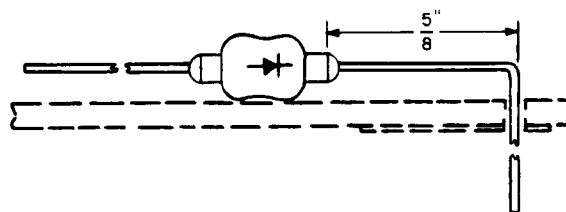
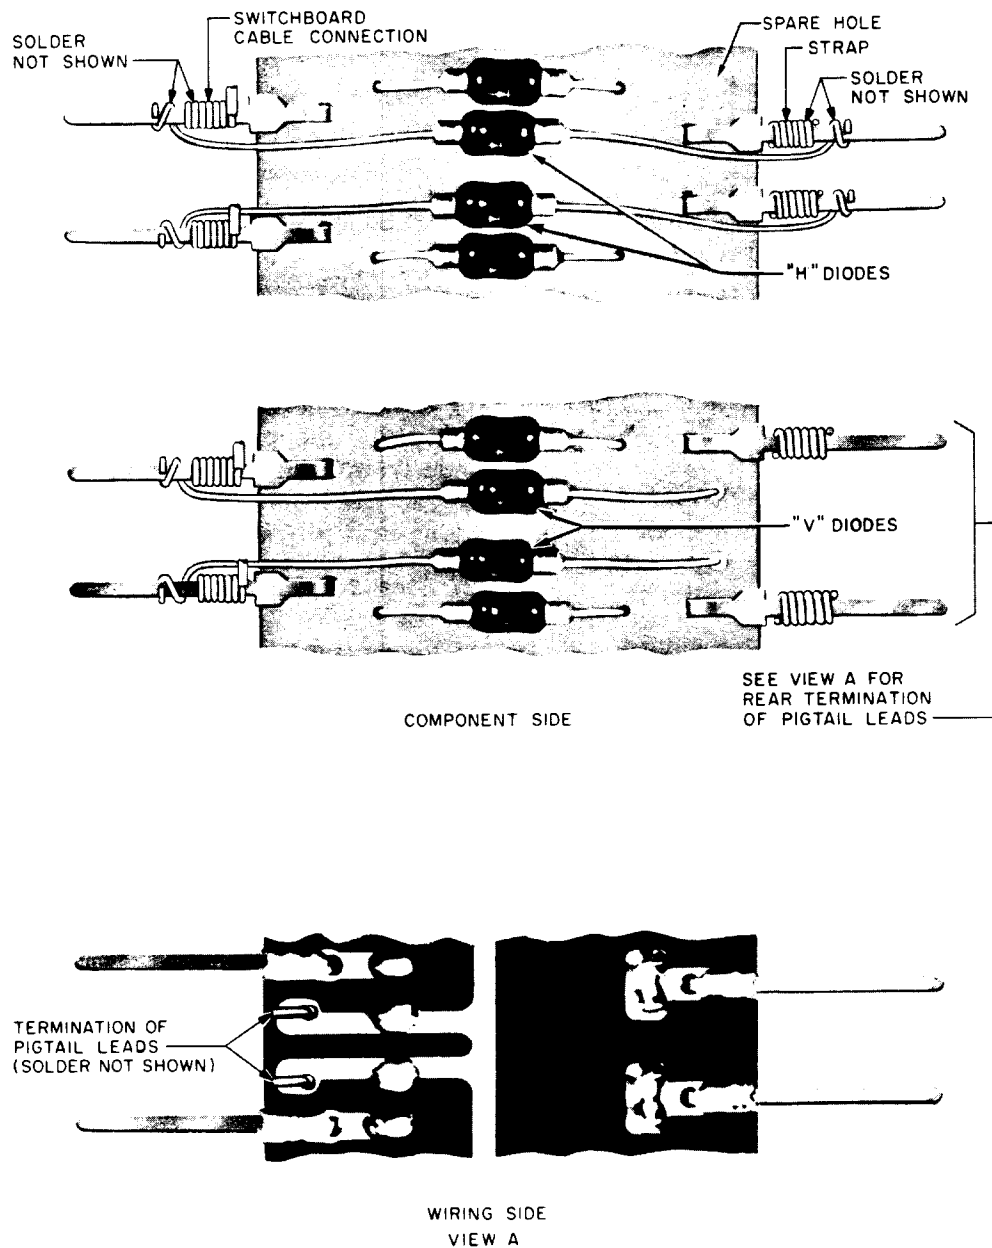

Fig. 2 – Forming Pigtail Lead
Fig. 3 - Method of Mounting Replacement Diodes
(2) **Step 2:** Form the pigtail lead of the replacing diode as shown in Fig. 2 so that the pigtail lead to be soldered to the conductor path will slip through the spare hole provided for this purpose (see Fig. 3).
(3) **Step 3:** With the P-long-nose pliers, insert the bent pigtail lead through the spare hole (see Fig. 3) and bend the lead, with the R-1102 spudger, toward the edge of the board. Cut the excess length of pigtail lead at the edge of the board.
(5) **Step 5:** With the P-long-nose pliers, wrap the replacing diode pigtail lead with a minimum of one and one-quarter turns around the top or bottom of the front terminal (see Fig. 3) as close to the switchboard cable connection as possible.
(3) **Step 3:** Using the P-long-nose pliers, connect the replacing diode to the front terminal by wrapping the pigtail lead with a minimum of one and one-quarter turns around the top or bottom edge of the terminal (see Fig. 3) as close to the switchboard cable connection as possible. The diode should be positioned approximately in line with the other diodes on the board.
(6) **Step 6:** Using the P-long-nose pliers, connect the replacing diode to the rear terminal by wrapping the pigtail lead with a minimum of one and one-quarter turns around the top or bottom edge of the terminal (see Fig. 3) as close to the strap as possible. The lead should not be so taut as to distort the terminal.
4.01 V1 Through V19 Diodes: For the subsequent replacement of a defective V diode, mounted as shown in Fig. 3, proceed as follows.
4.02 VO and HO Through H19 Diodes: For the subsequent replacement of a defective VO or H diode, mounted as shown in Fig. 3, proceed as follows.